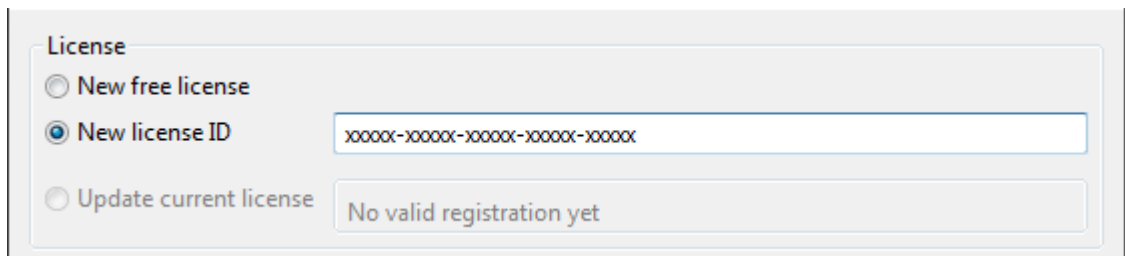

Figure 4. Register new license
- Select **New license ID** radio button and enter a new license-id into the text field (see Figure 4).